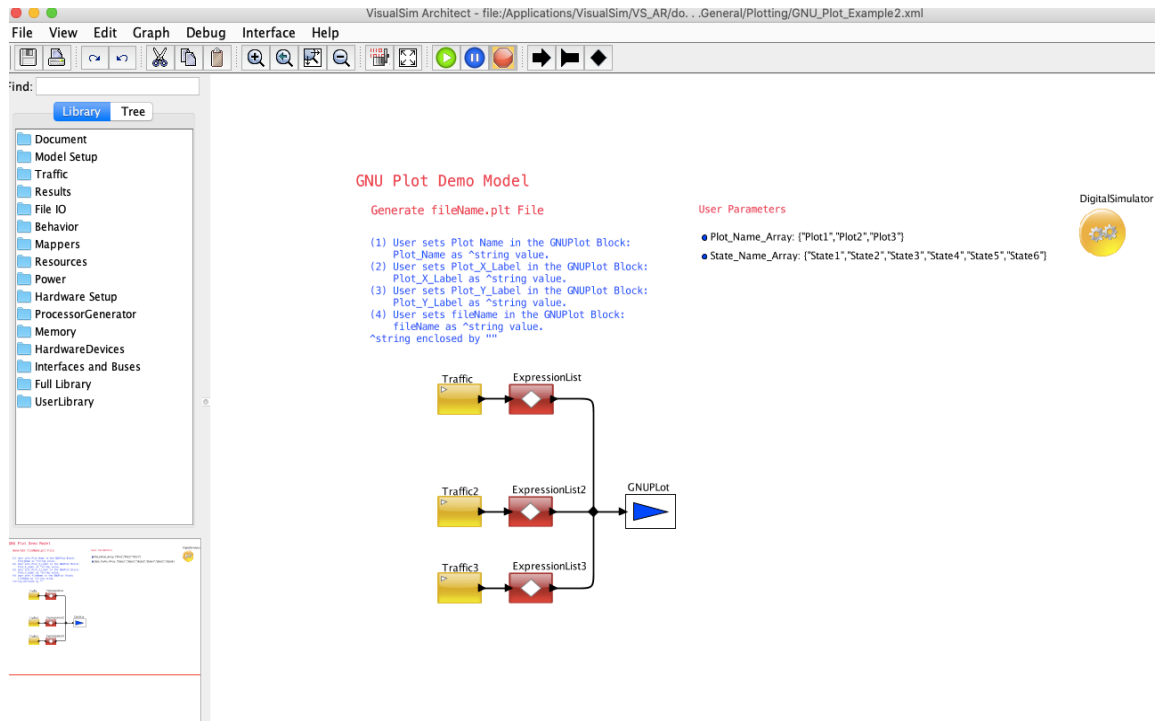

Figure 2
- Figure 2 shows the example of a Model xml file.